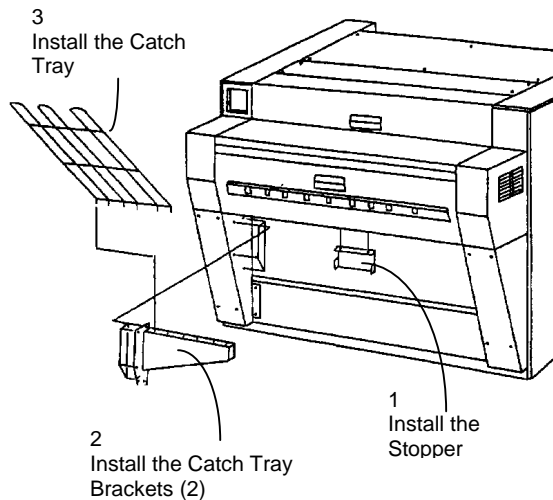

Figure 4. Installing the 8855 Catch Tray Assembly
16. (Figure 4): Install the Catch Tray, Catch Tray Brackets and the Stopper on the rear of the 721P/8855.